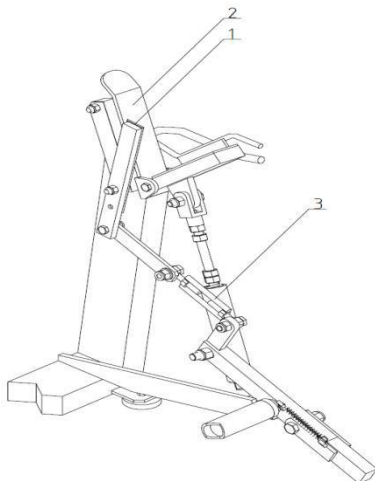

Fig. 20. Film cutter.
If the film cutter fails to operate correctly (Fig. 20), stop the wrapper, turn off the tractor engine, remove the ignition key and engage the tractor parking brake. Adjust the angle of inclination of the cutting blade (item 1) in relation to film in the clamp (item 2). Adjust with the tensioning bolt (item 3). Turn the tightening bolt clockwise to decrease the blade angle of inclination in relation to film and counterclockwise to increase the angle.